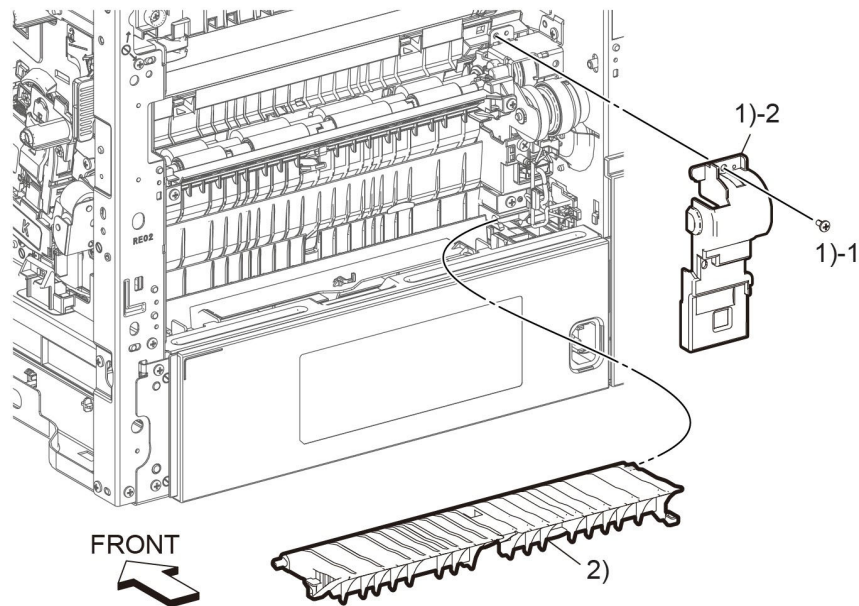

Figure 1 Remove the Lower Duplex Chute
2. Refer to Figure 1 to remove the Lower Duplex Chute.
3. Refer to Figure 1 to release two hooks and remove the Option Registration Chute.